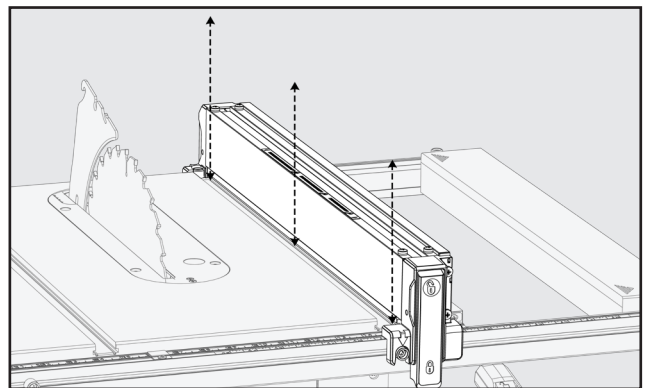

Figure 37
5. Move the extension tabs (with the fence attached) so that the inside face of the fence is flush with the edge of the miter slot (that was measured in Step 1). See Figure 37.